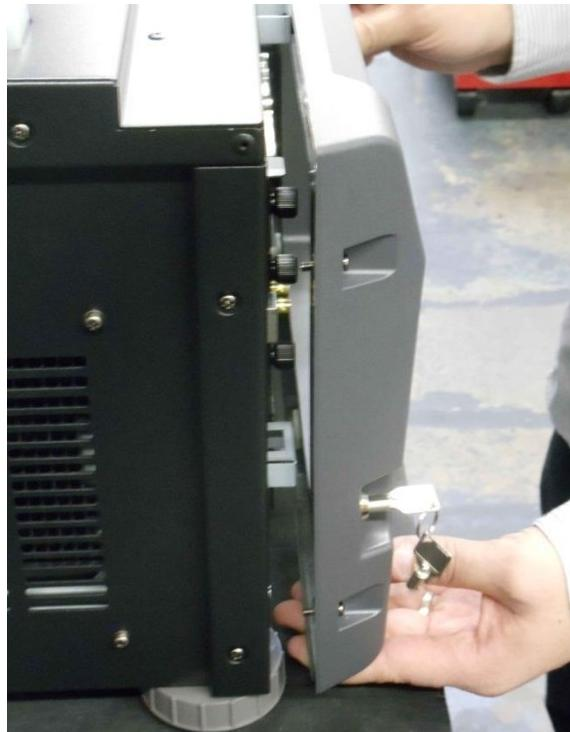

Figure 18: Reattaching the Projector Cover
- Reattach the projector cover and screw in the four screws holding it in place (Figure 18).